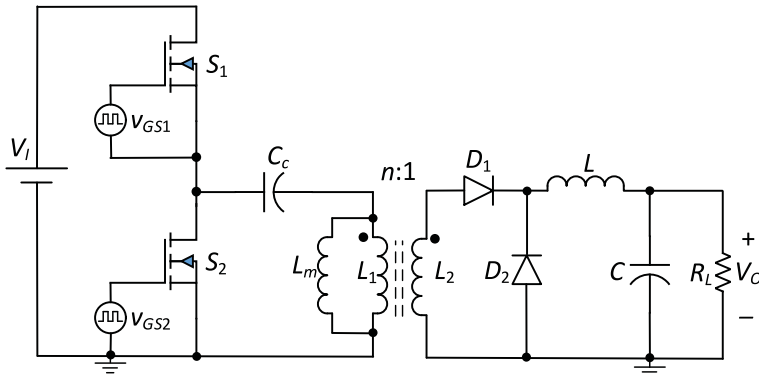

Figure 25.1 Circuit diagram of the PWM half-bridge dc–dc converter with half-wave rectifier.
1. Construct the circuit of the half-bridge converter shown in Figure 25.1 on the circuit simulator. Refer to Lab 16 for the method to use a transformer. Choose an appropriate number of turns. You may select $N_1 = 14$ and $N_2 = N_3 = 2$.